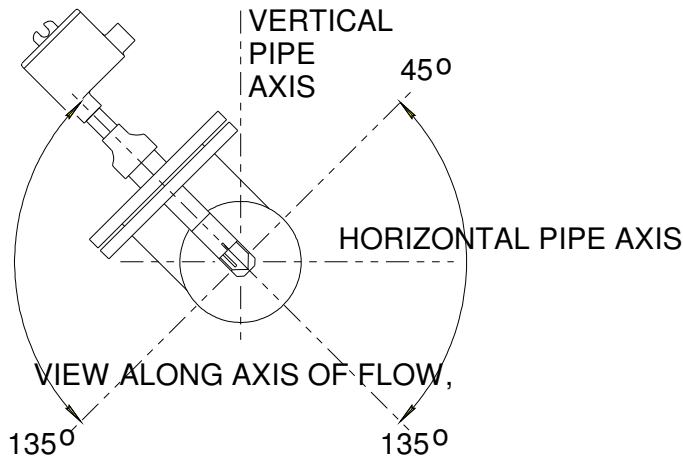

Figure 2-1: Transducer or Retractor Orientation
3. Transducers in the retractor or flanged assemblies should be offset from 0° to 45° either side of the horizontal pipe axis (see Figure 2-1). This will prevent bubbles from adhering to the transducer face, particularly in low flow velocity applications.